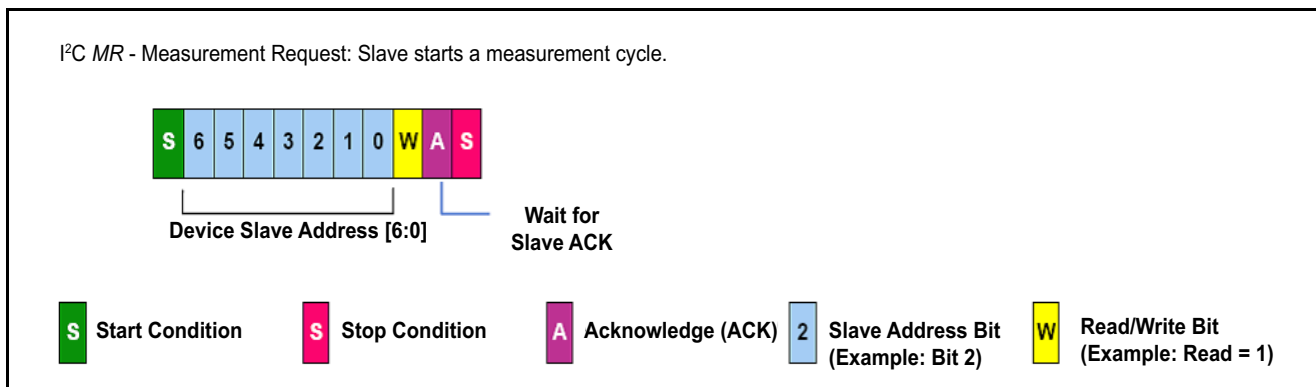

Figure 17: I²C Measurement Request
As shown in Figure 17 below, the communication contains only the slave address and the WRITE bit (0) sent by the master.